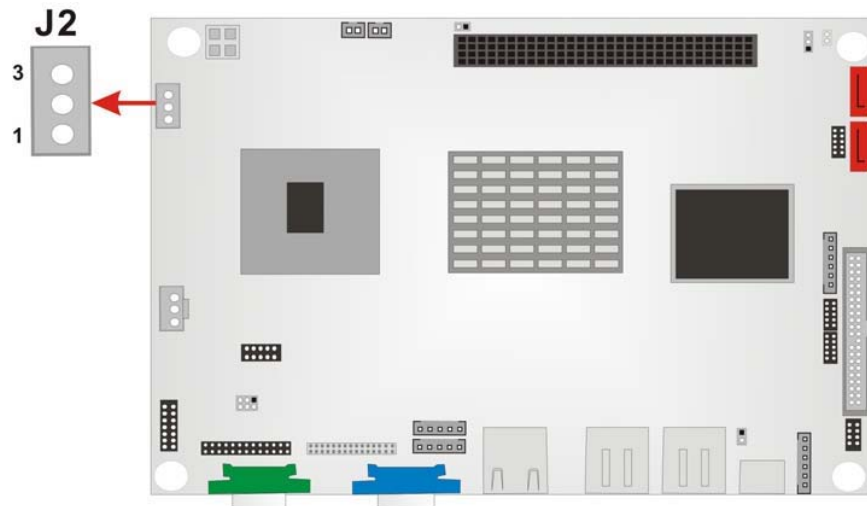

Figure 3-5: Power Connector Location
- CN Location:** See Figure 3-5